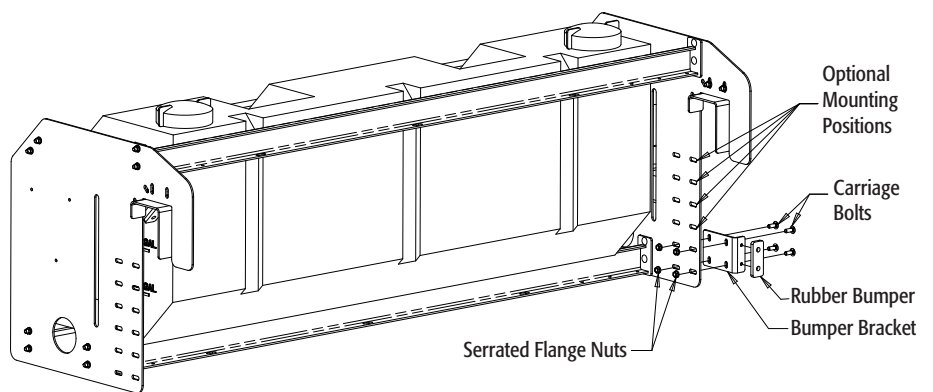

**Fig. 4**
4. Using (4)3/8 x 1" Carriage Bolts and (4)3/8" Serrated Flange Nuts, mount the (2) Top Bumper Brackets to the Side Plates as shown in Figure 4.